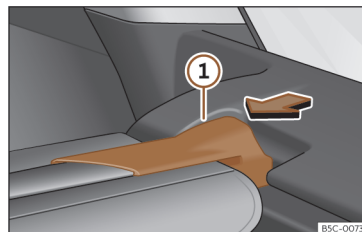

Fig. 120 In the luggage compartment: removing the shelf.
- Press the rear shelf support >>> **Fig. 120** ① in the direction of the arrow.
- Engage the support of the rear shelf »» Fig. 120 ① into the housing on the other side.